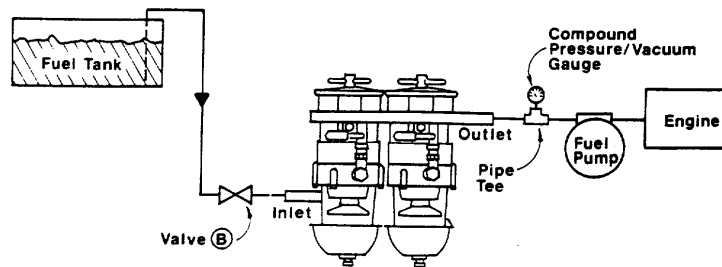

Figure 3
5. On a 75/900MA, 75/1000MA, or 79/1000MA unit, a pipe tee with a compound vacuum/pressure gauge must be installed on the outlet side of the filter system. (See Figure 3 and Accessories Section.)
1. Check outlet gauge. If gauge reads 4 or more inches of vacuum (inHg) close the outlet valve of the unit to be serviced, (See Figure 3.)
18351	Manual Valve-1" NPT (See Fig. 3)
18099	Pipe Tee-1" x 1" x 1" NPT (See Fig. 3)